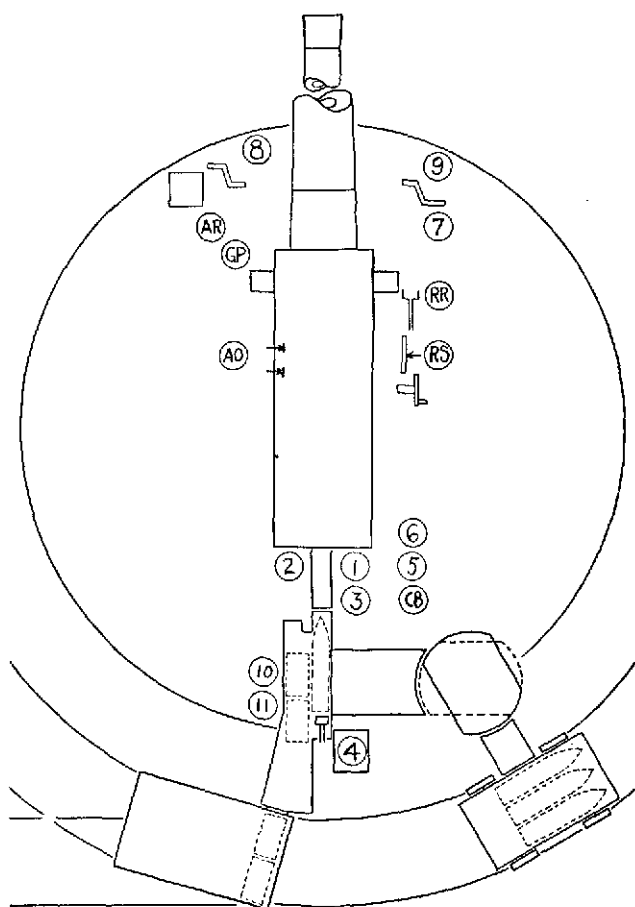

FIGURE 2.—Details, posts.
*b.* When his section arrives at the emplacement he commands: **1. DETAILS, 2. POSTS**, and supervises the procurement of equipment. After all details have reached their posts (fig. 2), he commands: **EXAMINE GUN**. He then makes an inspection of the gun, carriage, and other matériel.